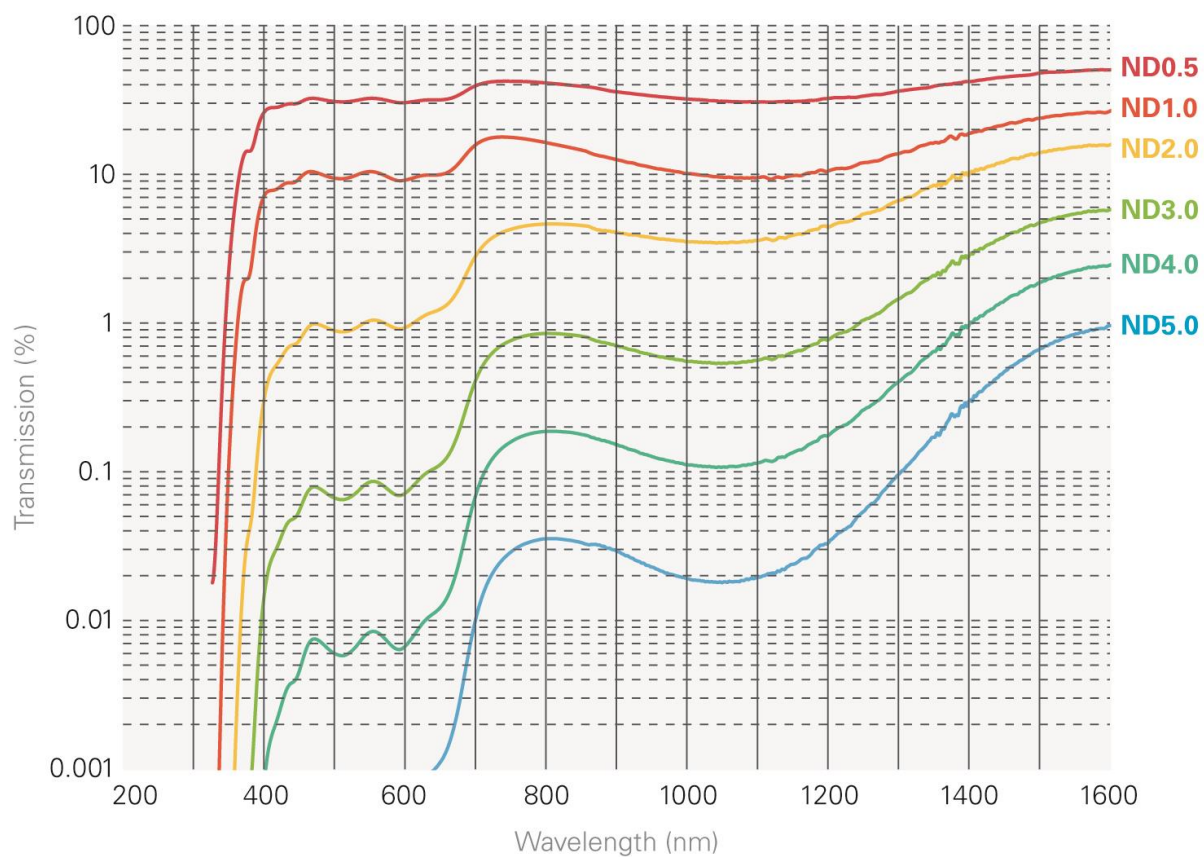

Figure 1: Transmission Curve of all ND Filters
Gentec-EO offers various SM1 threaded absorptive Neutral Density (ND) filters that can be stacked directly on the aperture of the BEAMAGE camera via a SM1 to C-mount adaptor, included with the BEAMAGE. Subsequent filters can be stacked directly on each other. These filters have the ability to equally reduce the intensity of all wavelengths without affecting the wavefront of the beam or distorting the image. The attenuation is wavelength dependant; see Figure 5. An empty SM1 threaded filter holder is available for those who would like to use their own ND filters with their camera. It holds 25 mm wide filters. Sets of 3 filters or 6 filters are also available. Optical density varies with the wavelength. To see the complete transmission spectrum, please refer to “Figure 1: Transmission Curve of all ND Filters” on next page